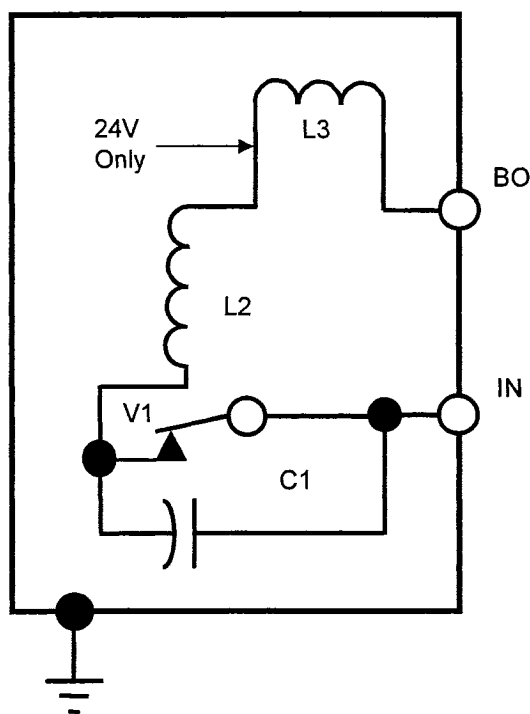

Figure 5-2
Figure 5-2, Starting Vibrator	5-5
- a. Figure 5-2, "Vibrator Without Relay."